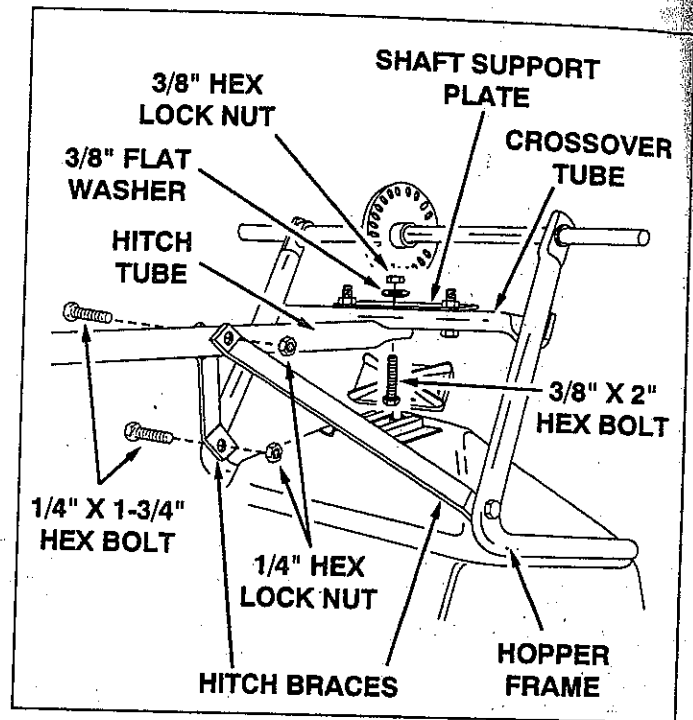

FIGURE 4
4. Assemble the two hitch braces to the inside of the hopper frame, one on each side, using two 1/4" x 1-3/4" hex bolts and two 1/4" hex lock nuts. See figure 4. **DO NOT TIGHTEN AT THIS TIME.**
6. Align the holes in the ends of the two hitch braces with the nearest hole in the hitch tube. Fasten with a 1/4" x 1-3/4" hex bolt and a 1/4" hex lock nut. See figure 4. **DO NOT TIGHTEN AT THIS TIME.**